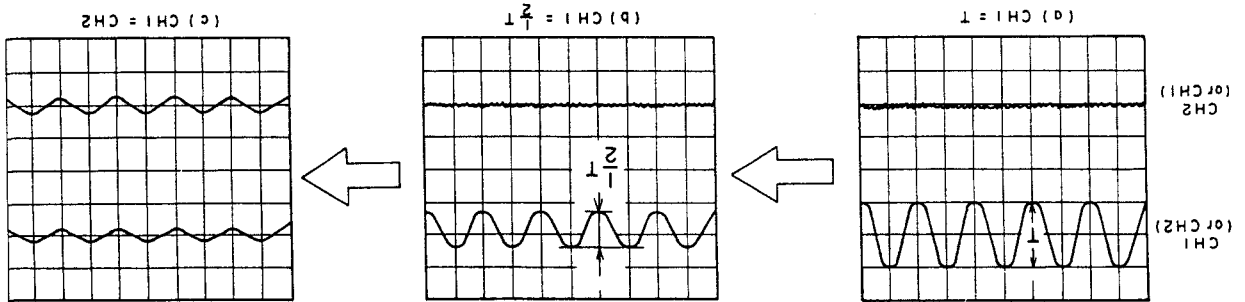

Fig. 4-14
- 2) Connect an oscilloscope's CH-1 to the AUDIO OUT (L) terminal on the rear panel and CH-2 to TP401 (CTL OUT) on the MAIN PCB.
3) Turn the hexagon screw to obtain 1/2 of the output level of either CH-1 or CH-2, whichever has an output signal as shown in Fig. 4-14.